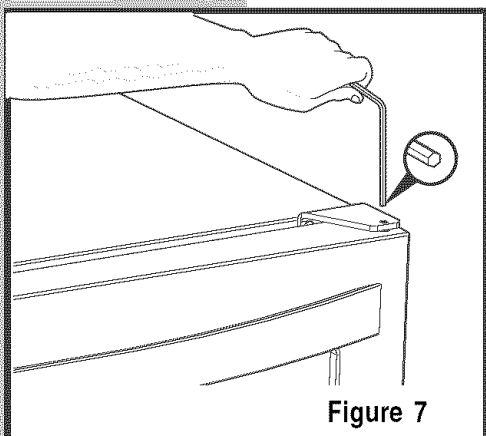

Figure 7
- 1 Remove top hinge screw pin (7/64" Allen wrench) from cabinet (see **Figure 7**).